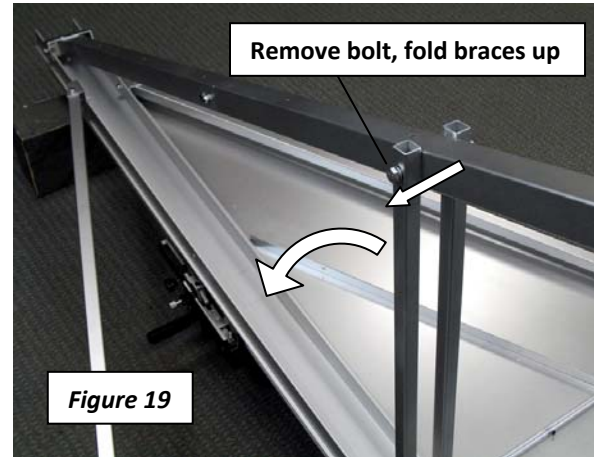

Figure 19
19. Using two 17mm wrenches, remove the M10 bolt, washers, and locknut joining the rear braces to the center rear leg (Figure 19). Pivot the two braces upward against the rear of the Vertical Track, and set the bolt, washers, and nut aside for now.